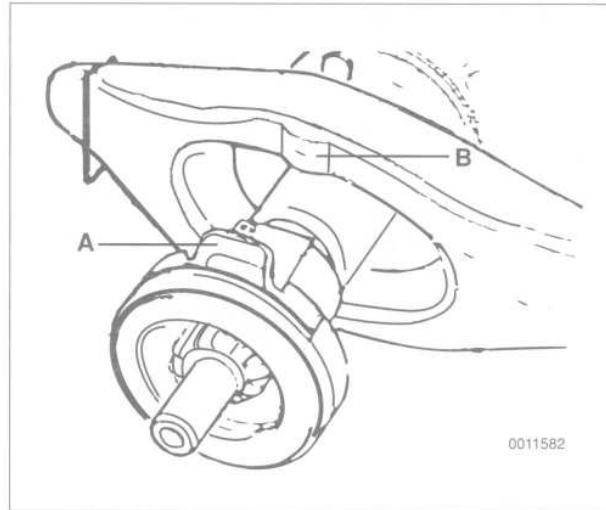

Fig. 8. Clutch release bearing correctly installed. Bearing tabs (A) align with contact points (B) on release lever.
13. Install release bearing, making sure bearing tabs are flush against the release lever. See Fig. 8. See note for special installation instructions.